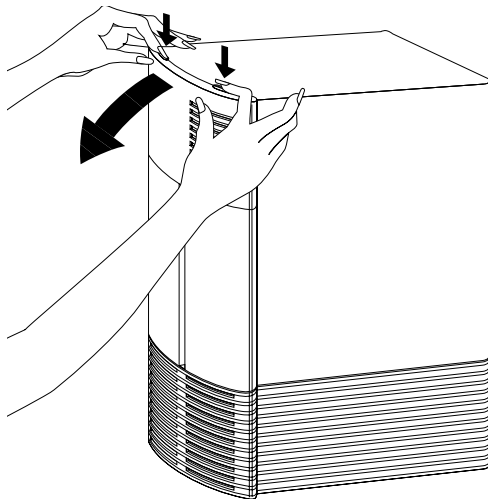

Figure 6-21 Removing the Plastic Cover From the Indigo Chassis
- Press down on the tabs and pull the panel away from the chassis, as shown in Figure 6-21.